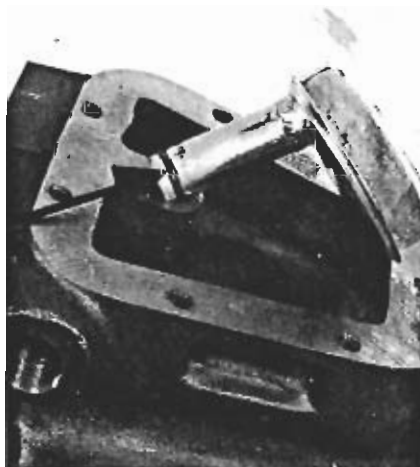

Figure 33 Assemble "O" ring and screen
**STEP 49** Assemble an "O" ring in groove of oil screen tube and assemble tube into bore of case, figure 33.